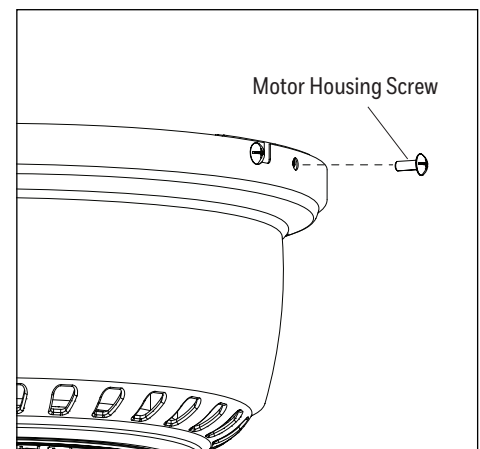

Figure 4.3
- Slide the motor housing up over the motor, aligning the slotted holes in the motor housing with the two loosened motor housing screws in the upper mounting bracket. Twist the motor housing clockwise to lock. Then, reinstall the two previously removed motor housing screws and securely tighten all four screws (Figure 4.3).